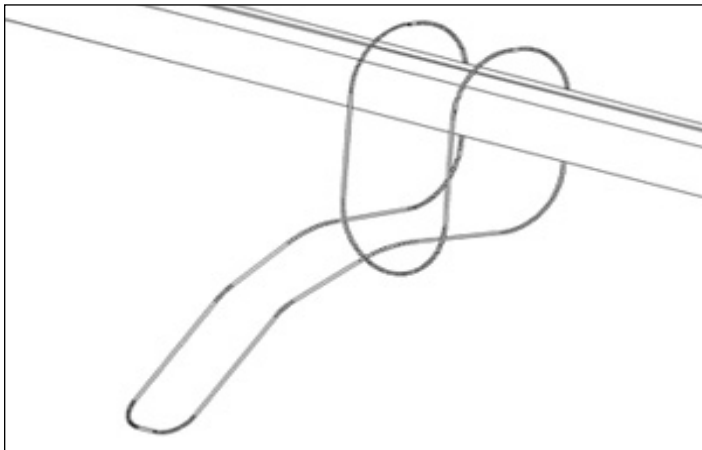

figure 1
1. Wrap one end of safety cables around beam and pull through loop (figure 1).